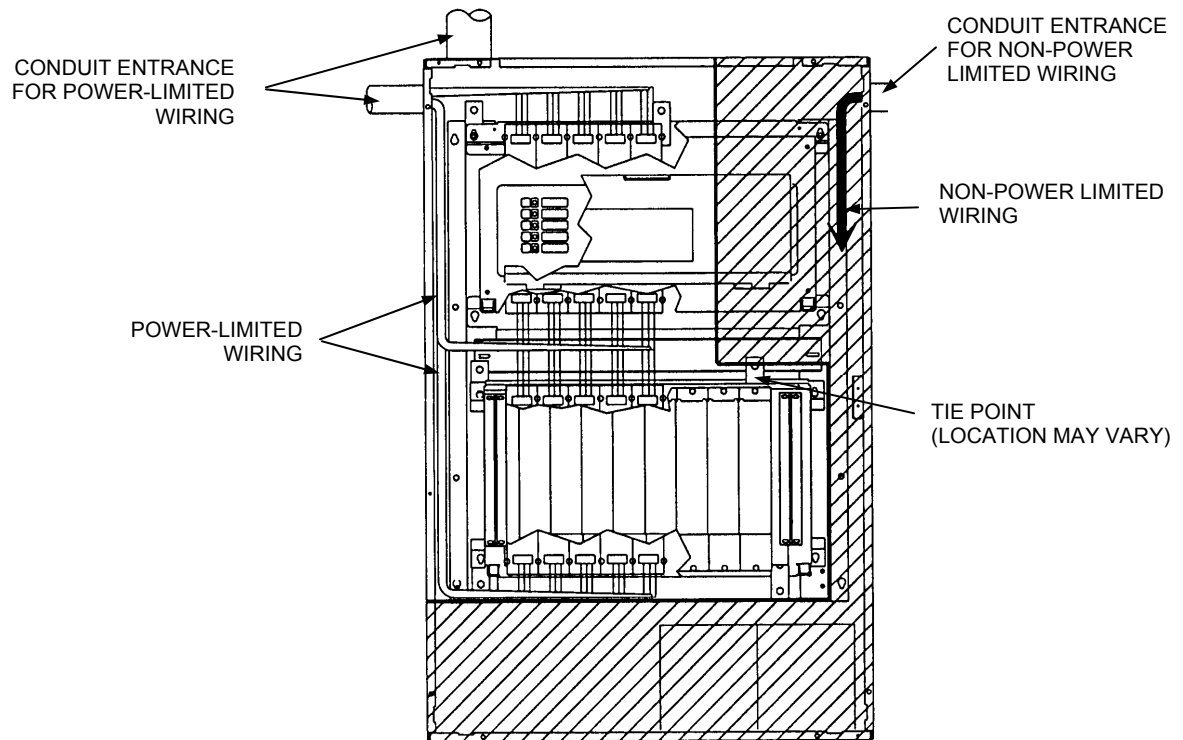

Figure 12. Power-Limited Wiring
- Non-power limited field wiring (AC power, batteries, City connection) must be installed and routed in the shaded areas shown in Figure 12.
- Power-limited field wiring must be installed and routed in the non-shaded areas shown in Figure 12, with the exception of City wiring.
- Excess slack should be kept to a minimum inside the back box enclosure. The wiring should be neatly dressed and bundled together using the wire ties provided with the equipment. Anchor power-limited wiring to tie points, as shown in Figure 12.